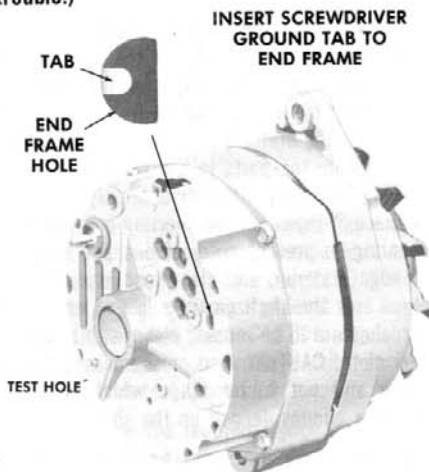

Figure 5—End frame test hole
- g. If ampere output is not within 10 amperes of rated output, determine if test hole (Fig. 5) is accessible. If accessible go to Step h. If not accessible go to Step i.
- h. Ground the field winding by inserting a screwdriver into the test hole (Fig. 5). **CAUTION:** Tab is within  $\frac{3}{4}$  inch of casting surface. Do not force screwdriver deeper than one inch into end frame.